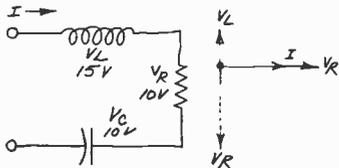

Fig. 4.
**RLC Networks.** Electronic systems often contain circuits that use combinations of resistors, capacitors, and inductors in various resonant and nonresonant configurations. The simple series network shown in Fig. 4 is an example.
The voltages across the three elements in Fig. 4 are not in-phase, because the capacitive voltage lags the current by 90°, while the inductive
voltage leads the current by 90°, as illustrated in the vector diagram. Phase relationships depend on frequency and the relative magnitudes of R, L, and C. The equation for source voltage is  $V_s = \sqrt{V_R^2 + (V_L - V_C)^2}$ . For the component values given in Fig. 4,  $V_s$  becomes: